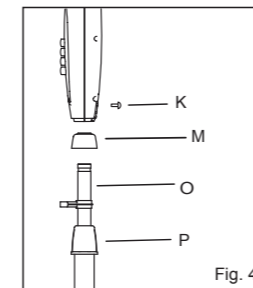

Fig. 4
Step 3: Final Assembly (Fig. 4)
- Loosen the thumb screw (K) by turning it counterclockwise.
- Always keep the water proof cover (M) even with the height adjustable knob (P) when adjusting the internal pole (O).
- Insert (O) into the neck joint and tighten by turning (K) clockwise. Make sure it is tight enough to support the fan head.